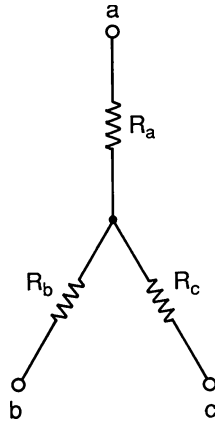

Fig. P-1
Delta-to-Wye (Fig. P-1):
1. In the circuit shown in Fig. P-1, R_a is 6000 Ω , R_b is 2000 Ω , and R_c is 3000 Ω . What is the value of R_y ?